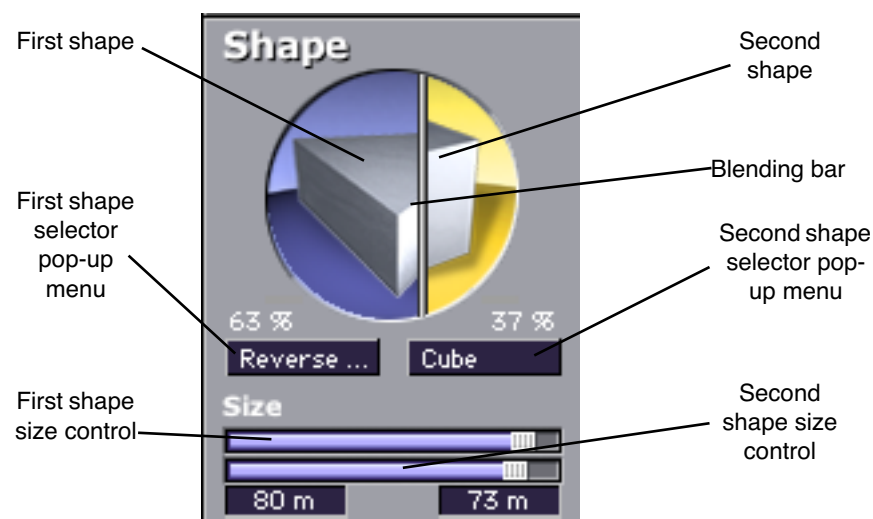

Figure 86. RealVerb Pro Shape panel
**Note:** The length in time of the early reflections cannot be adjusted from the Timing panel, and instead is determined by the reverb’s shape and size (see Figure 86).